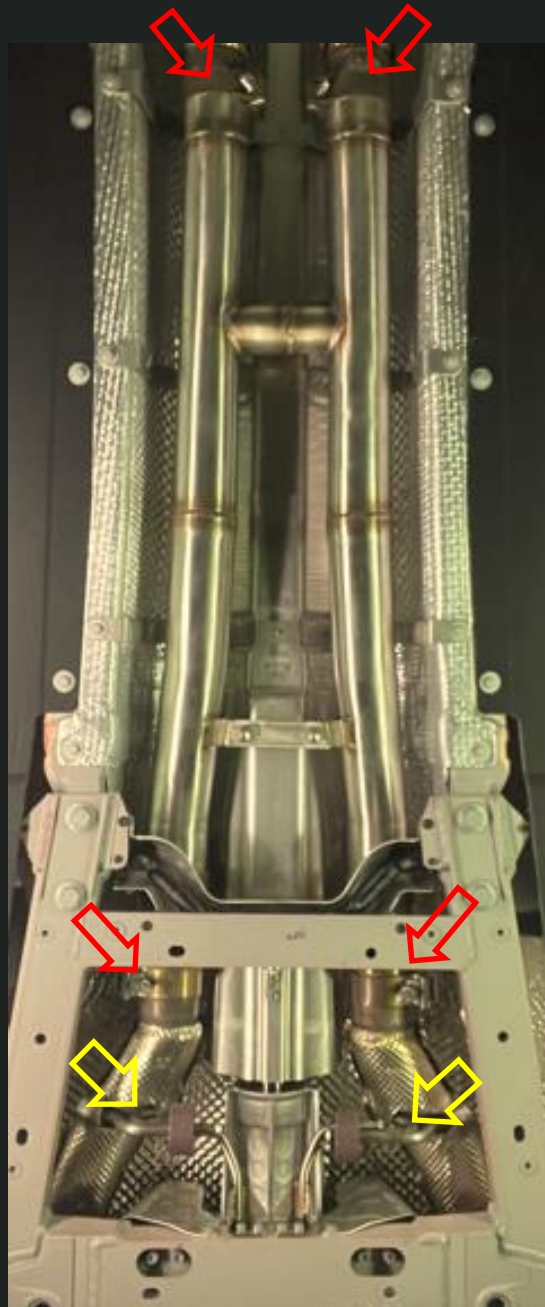

Figure 46
15. Adjust the mid pipe and rear pipe to their optimal positions. Ensure the rear pipe hanger is level (Figure 46, yellow arrows). Then, tighten the clamps (Figure 46, red arrows).